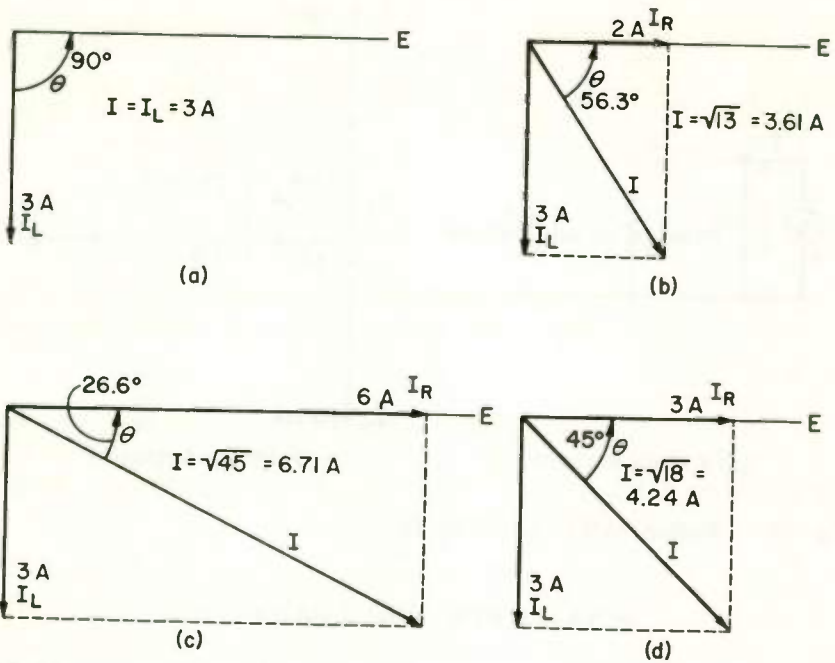

Fig. 21
1. See Fig. 21. 2. Lags 3. (a) Current lags voltage by 90° ; (b) current lags voltage by more than 45° ; (c) current lags voltage by less than 45° ; (d) current lags voltage by exactly 45° .